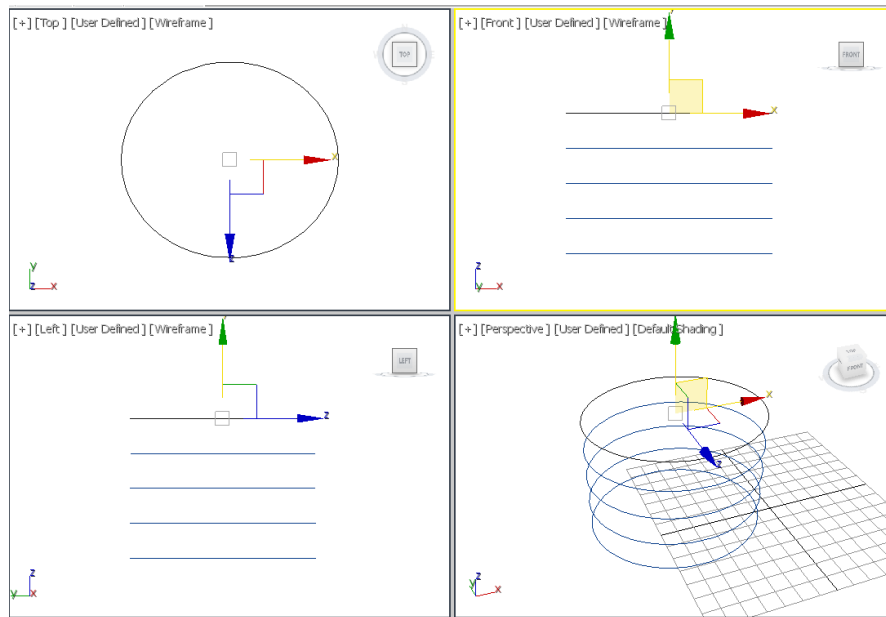

Figure 15-85 The circular NURBS curves displayed in viewports
8. Choose the **Zoom Extents All** tool; the circular NURBS curves are displayed in the viewports, as shown in Figure 15-85.